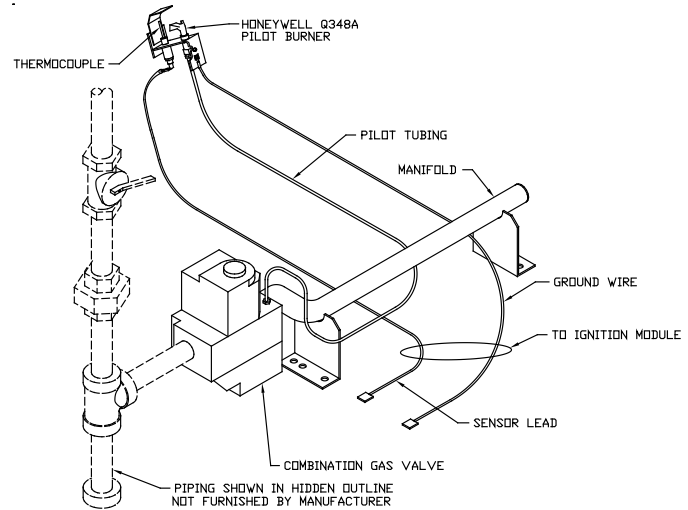

Figure 7: Pilot and Gas Piping, Intermittent Ignition (EI)
3. Install sediment trap, ground-joint union and manual shut-off valve upstream of boiler gas control valve. See Figure 7.